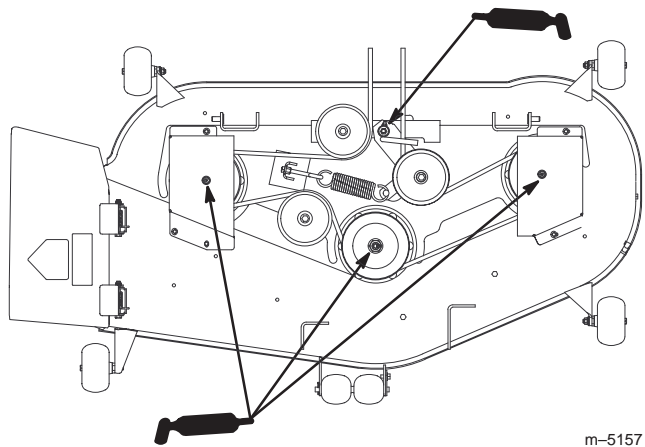

Figure 30
2. Grease the fittings on the three spindle bearings (Fig. 30).
3. Grease the idler pulley pivot (Fig. 30).